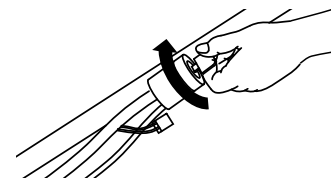
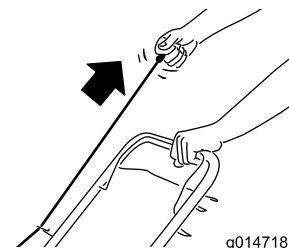

Figure 12
Figure 13
2. Turn the ignition key (electric-start models only; refer to Figure 12) or pull the recoil-start handle (Figure 13).